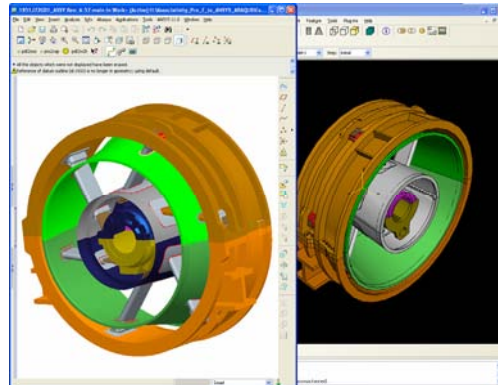

Figure 8. Cylinder Color Change.
- 4 Figure 8 shows both the Pro/E and Abaqus/CAE models updated. Remember that for Parts it is not automatic.